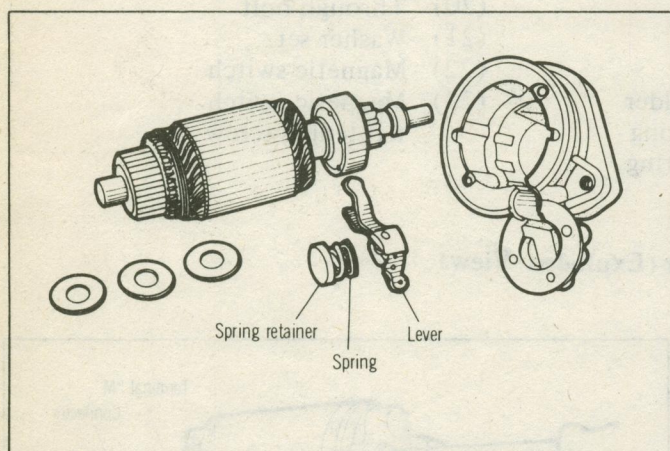

Fig. 6 Removing Armature and Lever
(3) Carefully remove the armature and lever from the front bracket. (Fig. 6)
Keep in mind the direction of the lever and the order in which the spring and the spring holder are inserted. (Fig. 6)